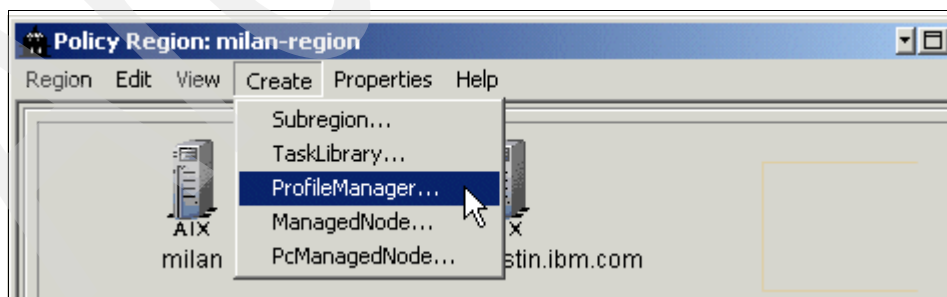

Figure 9-15 Creating a profile manager
10. Create the profile manager. In the Policy Region window, select **Create** →, **ProfileManager...** as shown in Figure 9-15.